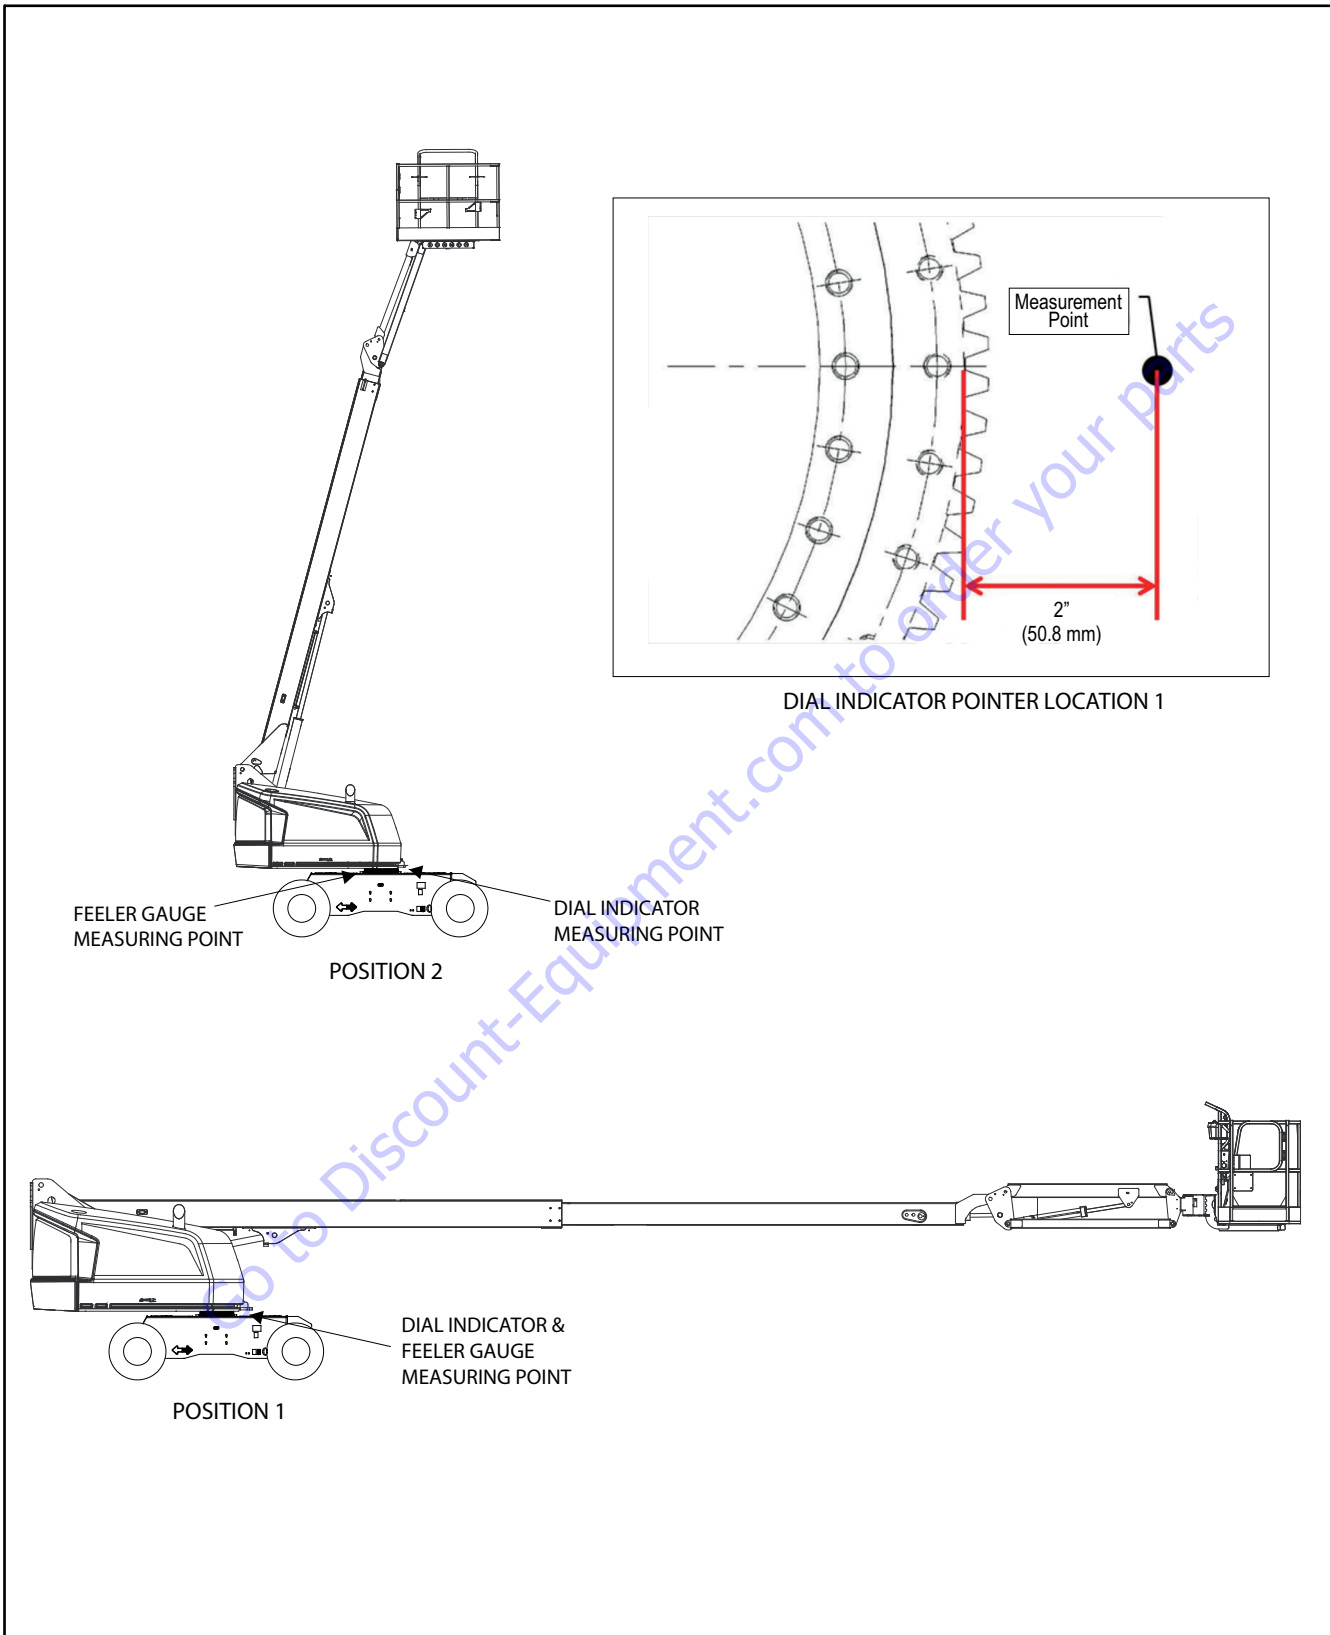

Figure 3-60. Swing Bearing Wear Tolerance
See Figure 3-60., Swing Bearing Wear Tolerance.
1. Position the machine as follows and as seen in Figure 3-60., Swing Bearing Wear Tolerance, Position 1:
- c. The indicator point needs positioned to measure the turntable base plate 2 in. (51 mm) from the root of the gear tooth. Refer to Figure 3-60., Swing Bearing Wear Tolerance.
5. Position the machine as follows and as seen in Figure 3-60., Swing Bearing Wear Tolerance, Position 2:
7. Return the machine to Figure 3-60., Swing Bearing Wear Tolerance, Position 1. The dial indicator should to return to zero. If the dial indicator does not return to zero, take corrective action and repeat the test.
- a. Elevate the fully extended main boom to horizontal as shown in Figure 3-60.
- a. Elevate the fully retracted main boom to full elevation as shown in Figure 3-60.